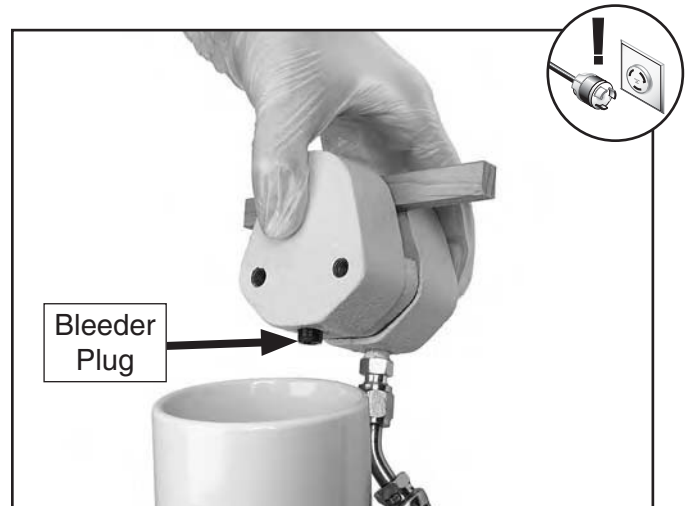

Figure 136. Preparing to bleed air from the brake system.
6. Place a small piece of wood between the brake pads that will fit tightly, as shown in **Figure 136**. This will keep the pads and pistons in place when pressure is applied to the system in the next steps.
7. Position the bleeder plug over a container to catch the used brake fluid, as shown in **Figure 136**, then remove the plug.